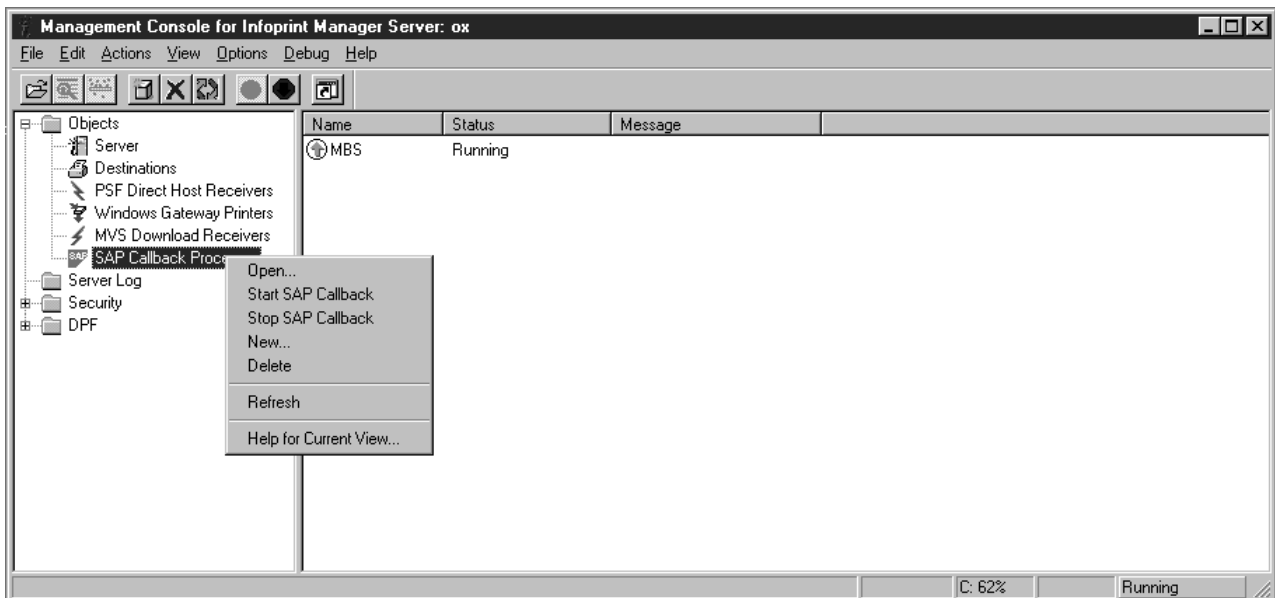

Figure 12. Infoprint Manager Management Console Main Panel showing SAP Callback Process
- If on Infoprint Manager for Windows, use the **Infoprint Manager Management Console** to left-click on SAP Callback Processes from the **Objects** view. This step allows you to access the SAP Callback Processes in the main view. From the main view, you can right-click and select **Open** (from the pop-up menu shown in Figure 12 on page 42).
Each SAP R/3 system using the Infoprint Manager Callback support needs to have one callback process running. To start the SAP Callback process on an Infoprint Manager Windows server, you must access the **SAP Callback Processes** from the **Infoprint Manager Management Console** shown in Figure 12.
5. If the Callback process has started correctly, the SAP Callback Process in the main panel should display a state of **RUNNING**, as displayed in Figure 12 on page 42.